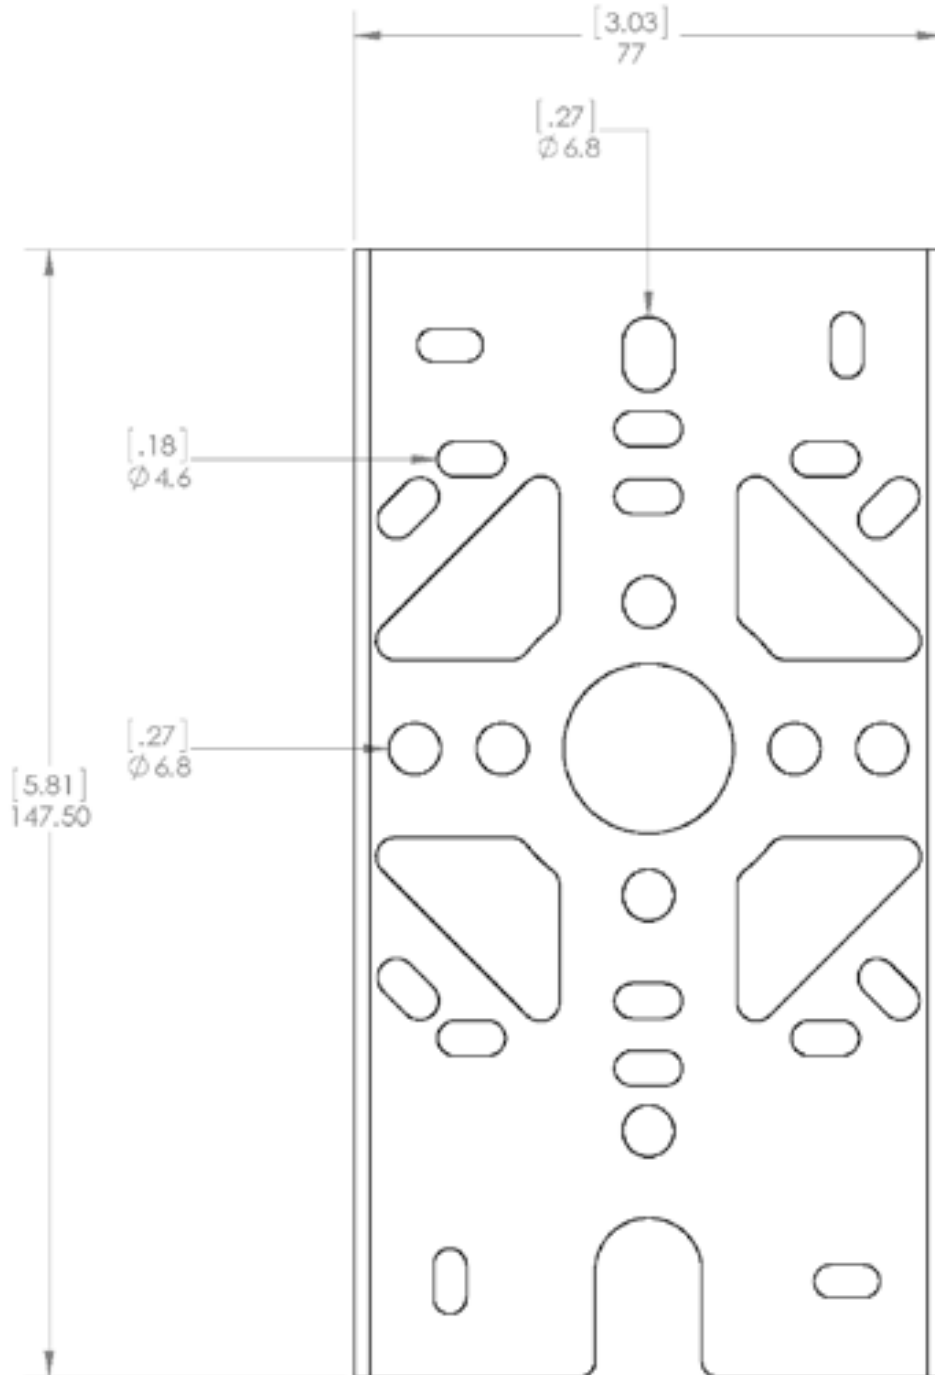

Figure 8-1. RAU Mounting Bracket Template
1. Referring to Figure 8-1, remove RAU enclosure cover: